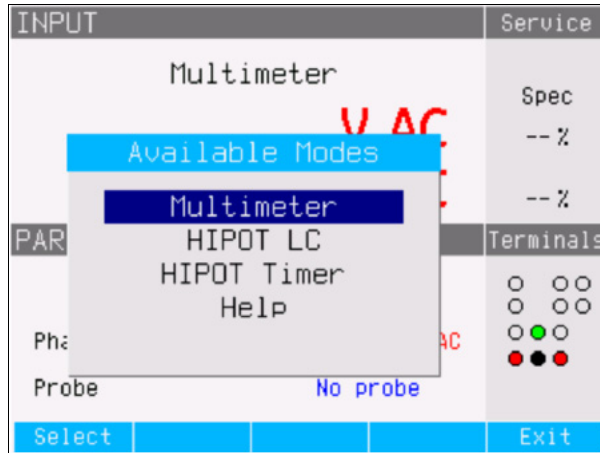

Figure 4-22. Multimeter Mode Selection
1. Press the **Mode** softkey to display the Available Modes menu (see Figure 4-22).